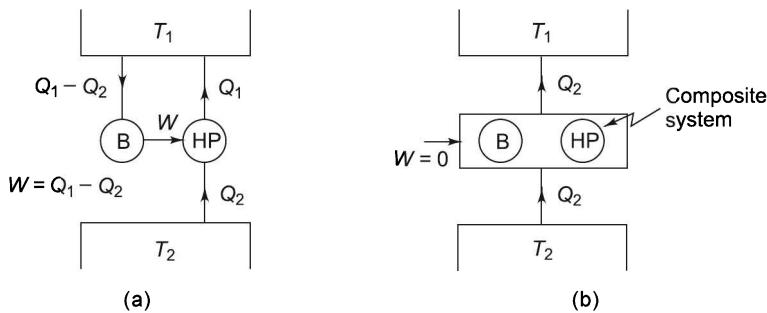

FIGURE 3.6 Violation of the Kelvin–Plank statement.
Violation of the Kelvin–Plank statement leads to violation of the Clausius statement. Refer to Figure 3.6. Device *B* is violating the Kelvin–Plank statement and it is producing work taking heat from one reservoir. If a heat pump (HP) is made to work using work output of device *B*, we get a composite system which extracts heat from the sink and delivers to the source without aid of external work. The composite system violates the Clausius statement.